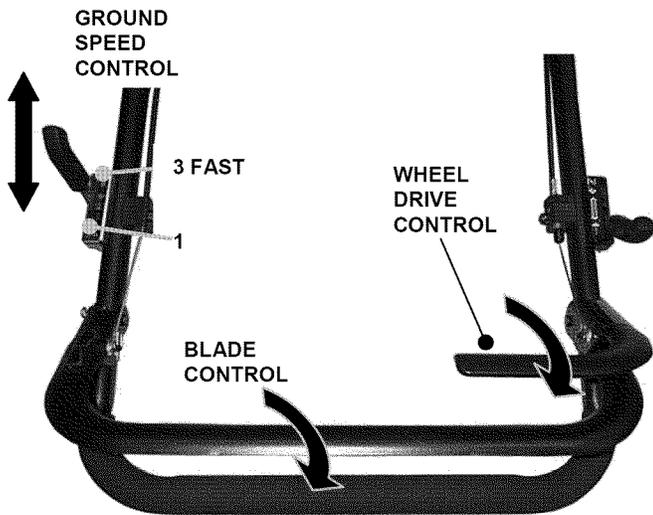

FIGURE 2.4
1. Move ground speed control to the desired speed position. See Figure 2.4.
IMPORTANT: Forward motion of machine must be stopped before changing position of the ground speed control. See Figure 2.4.